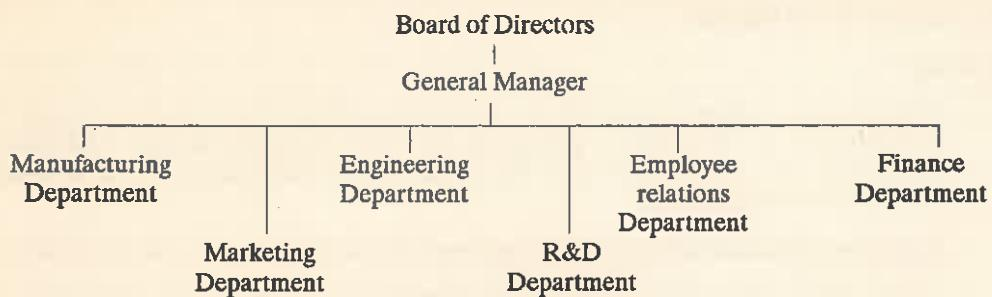

Fig. 3.11. Departmentalization by Function.
- Departmentalization by function is shown in Fig. 3.11, wherein the activities of the organization are divided into the primary *functions* to be performed—*manufacturing, marketing, engineering, research and development, employee relations and finance*.